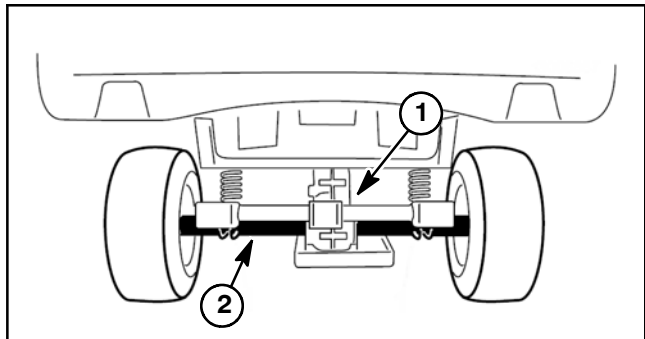

Figure 2
2. Jack rear of the vehicle under each rear axle tube. Do not jack vehicle below the transaxle case (Fig. 2).